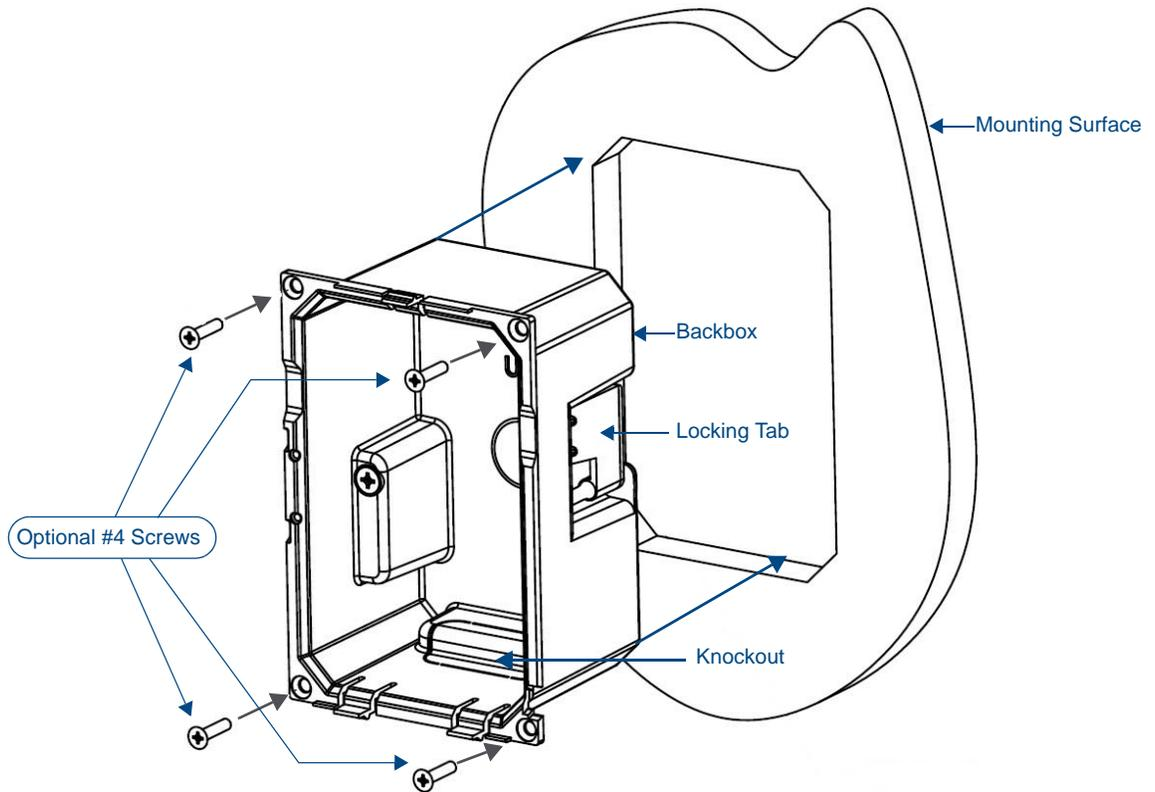

FIG. 44 MXD-430 Backbox Installation (Landscape)
- Thread the incoming Ethernet from their terminal locations through the surface opening (FIG. 44). Leave enough slack in the wiring to accommodate any re-positioning of the panel.
- For additional strength, #4 mounting screws (not included) may be secured through circular holes located at the top and bottom of the MXD-430 (FIG. 44). In order to prevent damage to the touch panel, make sure that these are flush with the Backbox.